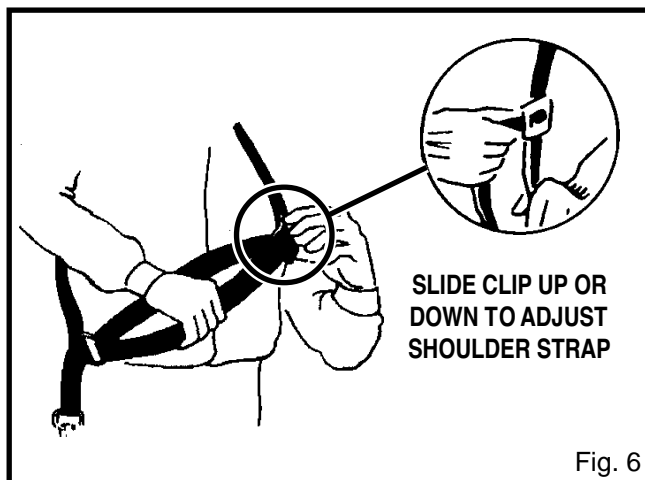

Fig. 6
- Shoulder strap can be adjusted by sliding the clip up or down. See Figure 6.